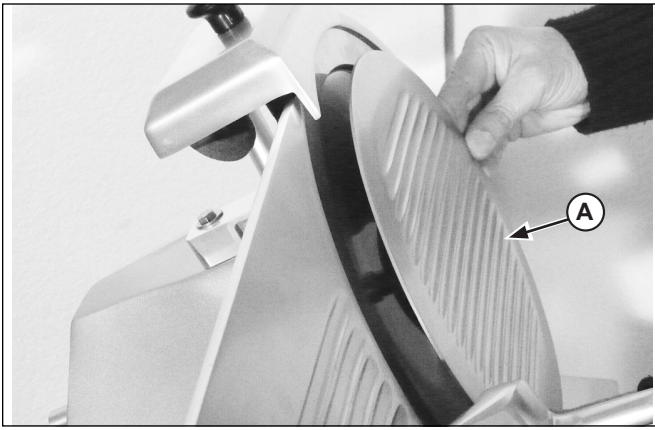

Figure 3. Knife Cover
5. Remove the knife cover (A). See Figure 3.
17. Install the knife sharpening assembly and rotate it 90° to set into place. See Figure 3.